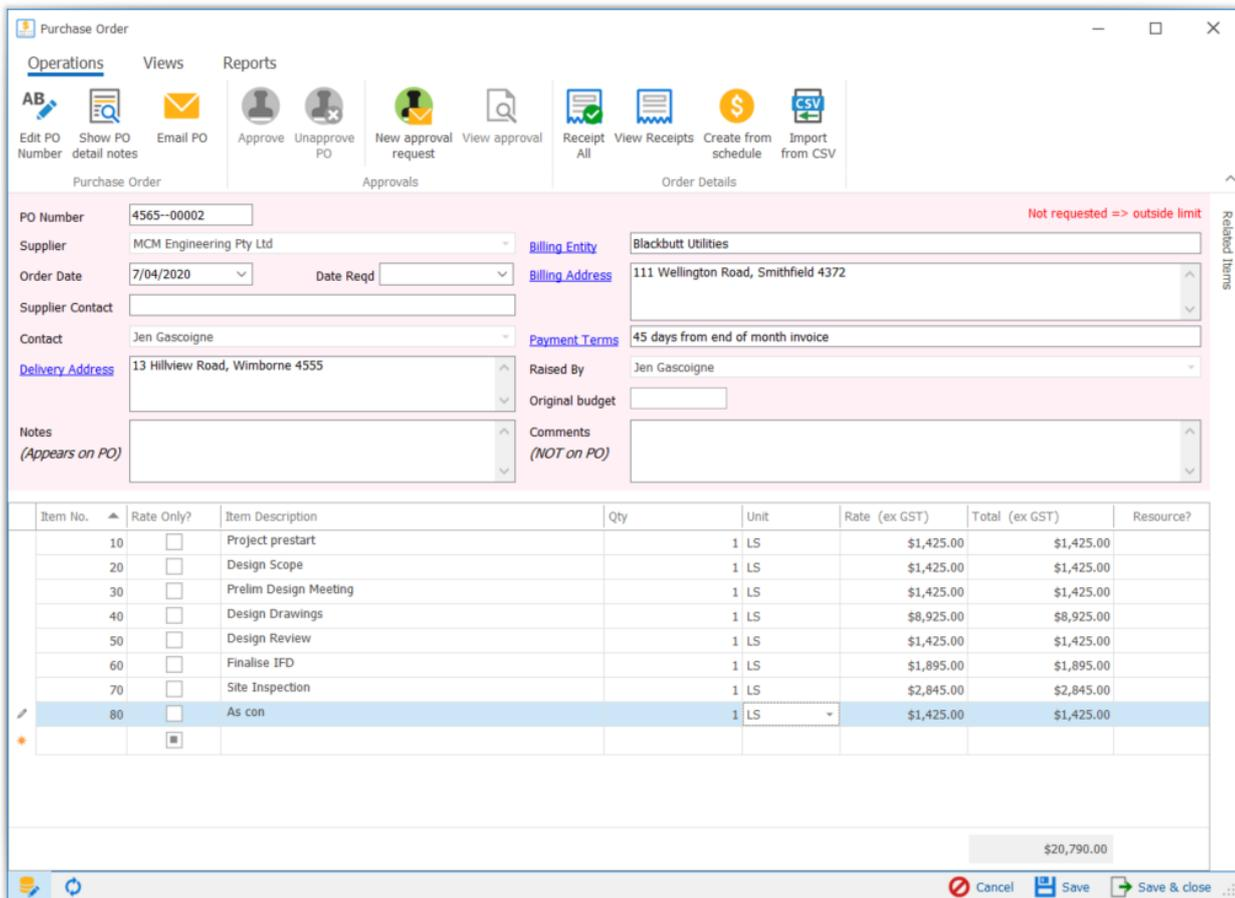

Figure 49 PO Details Imported from CSV
9. The details will now appear in the PO details section. Your PO should look like Figure 49.